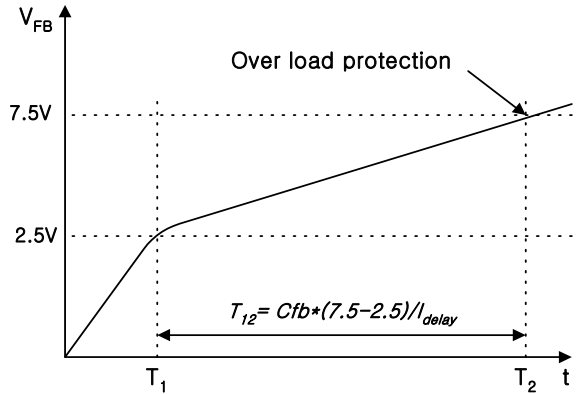

Figure 7. Over Load Protection
3.1 Over Load Protection (OLP) : Overload occurs when the load current exceeds a pre-set level due to an unexpected event. In this situation, the protection circuit should be activated in order to protect the SMPS. However, even when the SMPS is in the normal operation, the over load protection circuit can be activated during the load transition. In order to avoid this undesired operation, the over load protection circuit is designed to be activated after a specified time to determine whether it is a transient or overload situation. Because of the pulse-by-pulse current limit capability, the maximum peak current through the Sense FET is limited, and therefore the maximum input power is restricted with a given input voltage. If the output consumes beyond this maximum power, the output voltage (V_o) decreases below the set voltage. This reduces the current through the optocoupler LED, which also reduces the optocoupler transistor current, thus increasing the feedback voltage (V_{fb}). If V_{fb} exceeds 2.5V, D1 is blocked and the 2uA current source (I_{delay}) starts to charge C_B slowly up to V_{cc} . In this condition, V_{fb} continues increasing until it reaches 7.5V, then the switching operation is terminated as shown in figure 7. The delay time for shutdown is the time required to charge C_B from 2.5V to 7.5V with 2uA. In general, a 10 ~ 50 ms delay time is typical for most applications.